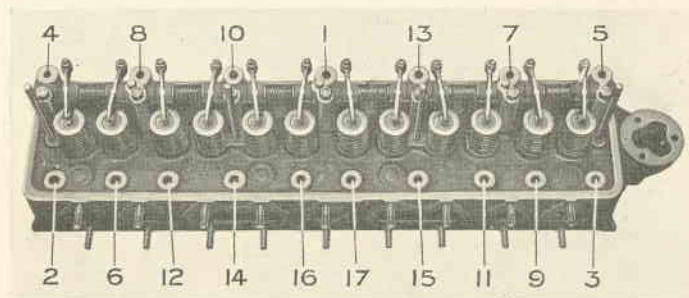

Fig. 8.
"Grinding in" valves is not a difficult matter with a Sunbeam engine if the following procedure is adopted. Strict attention to the sequence of operations laid down will ensure that the work is done correctly, and without waste of time. After draining the water from the cylinder block proceed as follows: (1) Disconnect the high tension wires; (2) Remove the sparking plugs; (3) Remove the hose clip on the water outlet connection and detach hose; (4) Remove the nuts which hold down the valve cover and lift latter away; (5) Disconnect carburetter controls; (6) Remove the inlet and exhaust manifold and the carburetter; (7) Remove the cylinder head holding down nuts, unscrew the nuts in the order shown in Fig. 8, page 18; do not remove nuts directly, each nut should be unscrewed slightly in turn; (8) Carefully lift the head clear of the locating studs, taking care not to damage the threads.
The nuts should be tightened progressively ; that is, each nut should be given about one-third of a turn at a time (see Fig. 8 below for order of tightening nuts).